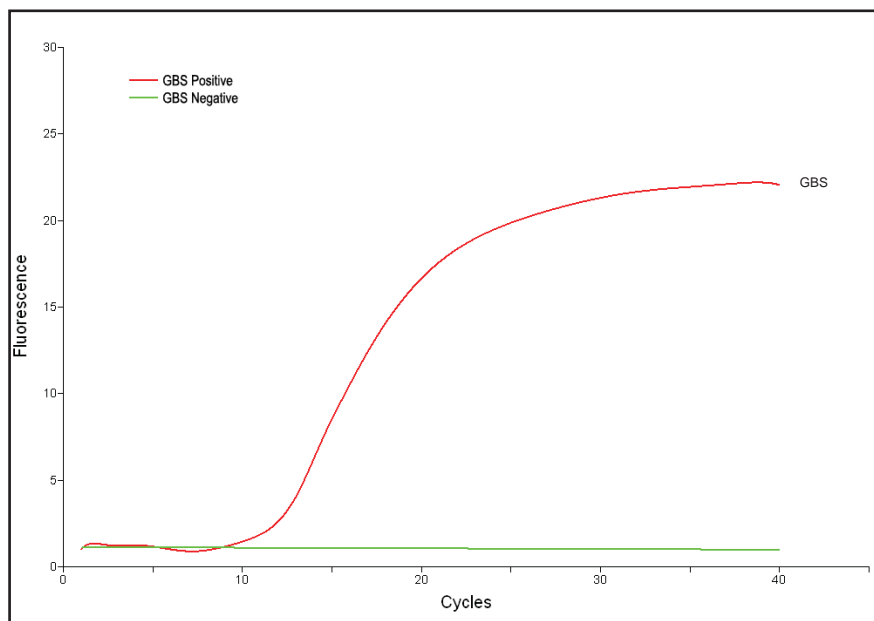

Figure 1. Real-time PCR result for Group B *Streptococcus* (GBS).
9. Example of real-time graph is depicted in Figure 1